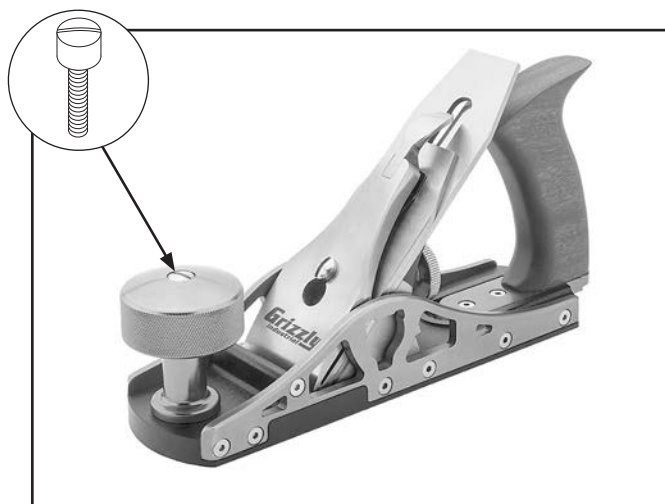

Figure 10. Knob adjustment components.
3. Loosen and remove (1) lock shaft on top of knob (see **Figure 10**).
4. Position knob as desired, then install and secure lock shaft removed in **Step 3** (see **Figure 10**).